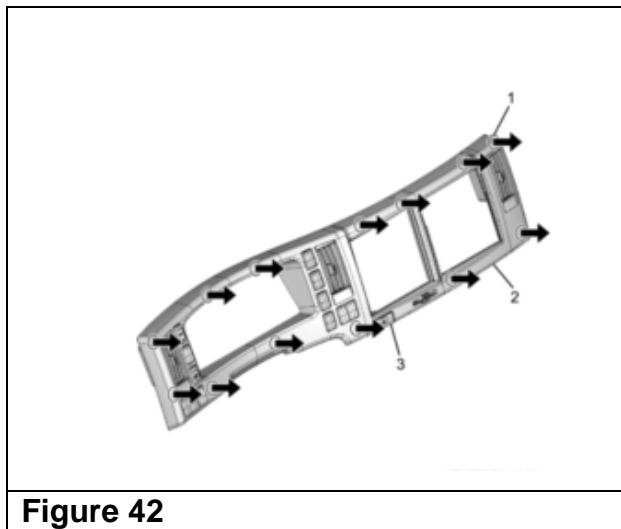

Figure 42
46. Remove the meter cluster bezel from the instrument panel by pulling forward and disconnecting the switches. (See Figure 42.)